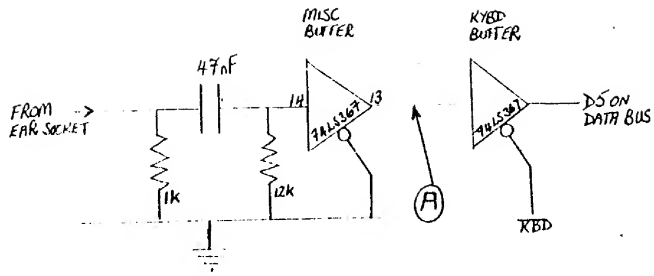
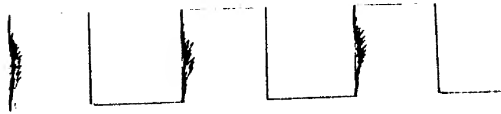

fig.1. TAPE LOAD CIRCUIT
fig.2. BAD SIGNAL AT POINT A.
The attached fig. 1 shows the Jupiter Ace keyboard matrix. In wiring up my own board I found that the computer would crash occasionally and produce some peculiar reactions unless the 5 10K pull-up resistors were added to the 74LS367 keyboard buffer. These are shown in the diagram. The 40 keys are connected in a 5 x 8 matrix which is decoded in the Ace to give the correct response.
Out came the 'scope yet again to find that the signal at point A of the loading circuit (shown in fig. 1) which should be a nice clean square-wave, looked like that shown in fig. 2, i.e. lots of noise on the leading edges of the square-wave. Changing the capacitor for another of the same value produced a slight improvement so I decided to experiment. Finally, fitting a .1uF polycarbonate capacitor produced two results:-
One feature of my latest game, ALIENS*, is the ability of the program to detect multiple key presses. Here's how it's done. As it says on page 154 of the Ace manual, each half-row of keys corresponds to a unique Z80 port address, with the outer-most key on each row corresponding to bit 0 of the data read in from that port. The assignment of keys to ports is fairly straightforward, except on the bottom row, where SYMBOL-SHIFT has been assigned to the port for the left-hand half-row, and the 'v' key has accordingly been moved right. Fig. 1 shows the logical layout of the keys with respect to their port addresses.
-Fig.1-
Fig.2 the listing.